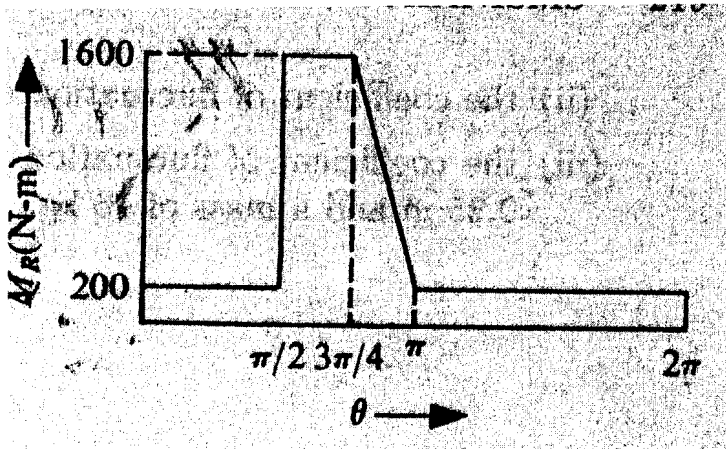

Figure 4
4. The arms of a Hartnell governor are of equal length. At midposition of the sleeve, the ball arm is vertical and the radius at which the ball rotates is 8.25 cm when the equilibrium speed, neglecting friction, is 450 rpm. On changing the speed by 1%, the governor is able to overcome the friction at this position. The friction force is assumed to have a constant value of 30 N at the sleeve. The sleeve moves  $\pm 1.6$  cm from the mean position. The minimum speed of the governor (including friction) is 428 rpm. The mass of the sleeve is 3.5 kg. Determine (i) the magnitude of the rotating masses, (ii) the spring stiffness, and (iii) the initial compression of the spring. (13)
5. The resisting torque on the crank of a riveting machine is shown in Figure 4. The duration of the cycle is 2 seconds. The motor driving the machine, however, has a speed of 1500 rpm and it delivers constant torque. The crankshaft of the machine is geared to the motor shaft. Neglecting frictional losses, determine
- (13)